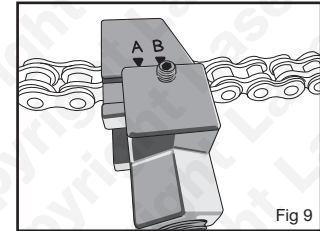

Fig 9
- Remove the plate holder (E) then loosen the 4mm grub screw and reposition the pin holder to position B. Tighten the grub screw with a 4mm hex key. **Fig. 9.**